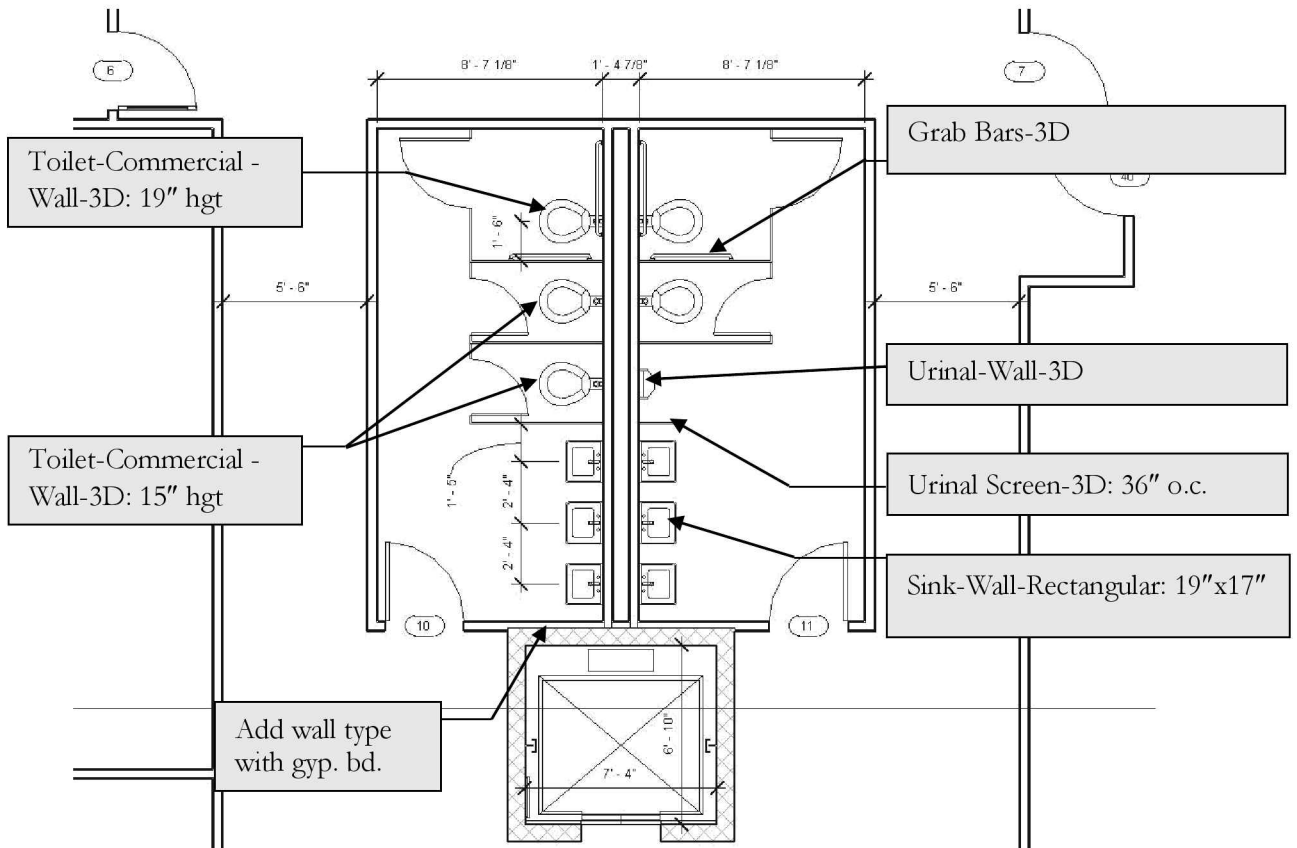

FIGURE 11-1.4 Toilet room layout
10. Add an additional  $4\frac{7}{8}$ " gyp. bd. wall as shown in **Figure 11-1.4**.
12. Add the additional components as shown in **Figure 11-1.4**.